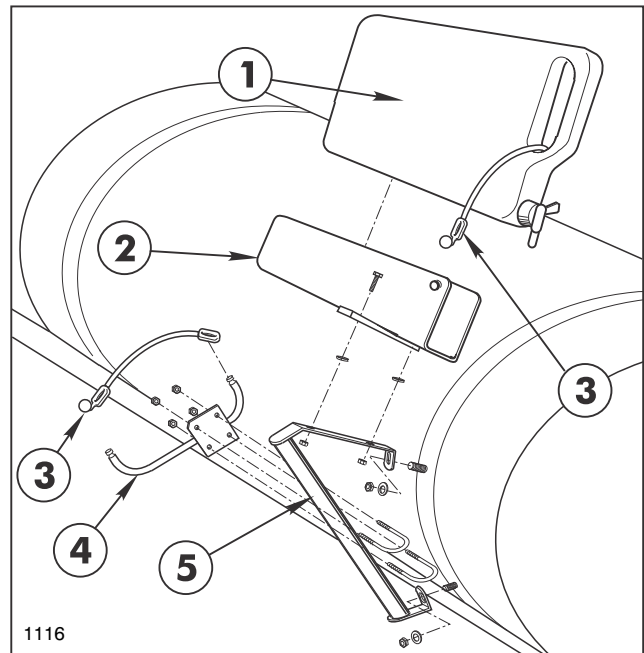

FIG. 8
1. Mount right Hold-In Brace assembly to the two (2) 5/16" carriage bolts in the front Tank Band using two (2) 5/16" flat washers and hex nuts. Tighten securely. See FIG. 8.
2. Attach right Boom Hold-In assembly to Hold-In Brace assembly using two (2) 1/4" U-bolts and four (4) 1/4" lock nuts. Attach Rubber Hold-Down to Hold-In Brace assembly. Repeat steps 1 and 2 for left side.
3. Mount Wash Tank Bracket (open end forward) to right-hand hold-In Brace assembly using two (2) 5/16" x 1" hex hd. cap screws, flat washers, and hex nuts. Place Clean Water Wash Tank into Wash Tank Bracket and secure with Rubber Hold-Down, as shown in FIG. 8.
7. Install the Mounting Bracket to the Vehicle's left rear fender, using two (2) 5/16 x 3/4" flange hd. screws and flange lock nuts. See FIG. 8.